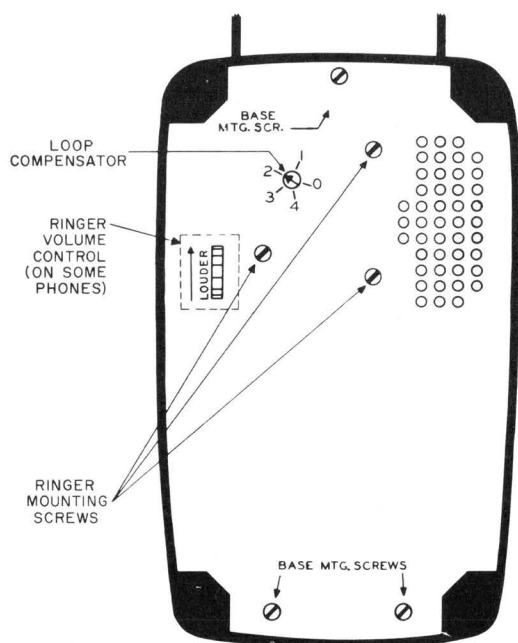
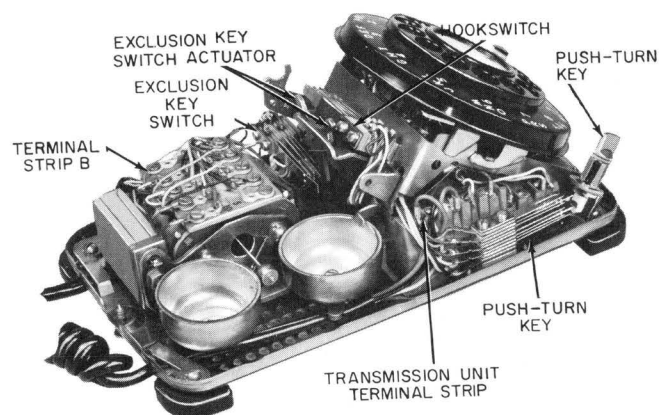
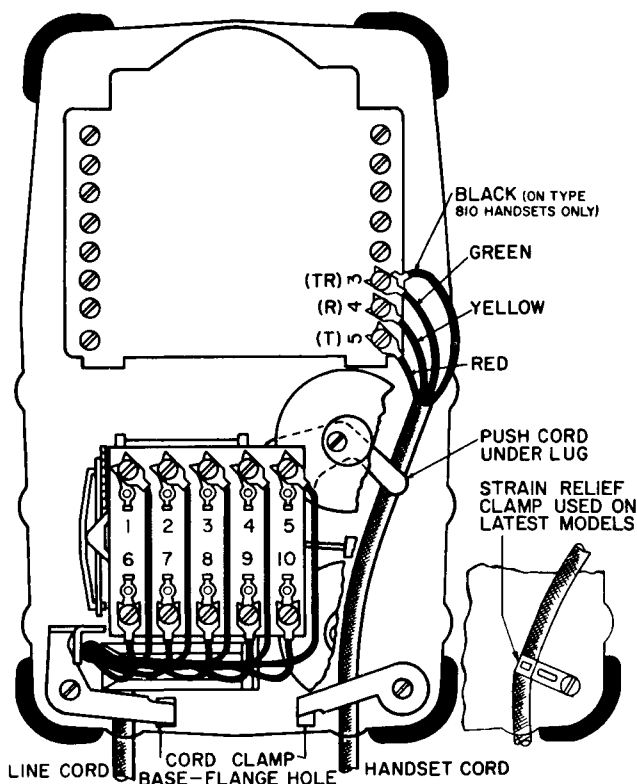

Figure 5. Typical baseplate.
Figure 6. Interior view with hookswitch actuator removed.
Figure 10. Line cord and handset cord connections inside telephone.
of the telephone marked BASE MTG SCREWS (figure 5) and loosen them. Now lift and remove the housing (figure 6). If the telephone is connected to the line, push the hookswitch actuating lever down to its locked position (see paragraph 3.2).
3.4 To remove the ringer, first remove the telephone housing. At terminal strip B (figure 6), disconnect the red ringer wire and black capacitor wire. At the transmission unit disconnect the green ringer wire and the white capacitor wire. At the bottom of the baseplate, remove the 3 ringer-mounting screws (figure 5). Remove the ringer and capacitor. Using the old ringer-mounting screws, fasten the new ringer and capacitor to the baseplate.
To replace the line cord, first remove the telephone housing. Notice whether the line cord connections at terminal strip B are standard for this type of telephone, or whether one of the variations of paragraphs 1.1, 1.2, or 1.3 has been previously installed. Disconnect the 6- or 10-conductor line cord leads from terminal strip B (figure 6). Loosen the cord clamp screw in the corner of the baseplate (figure 10) and unlock the clamp lug from its hole in the baseplate. Withdraw the old cord.
Pass the end of the new cord through the baseplate hole (figure 10), until the covered portion extends just over two inches into the base. Insert the cord clamp lug into its baseplate hole and adjust the cord in the clamping bracket until the covered cord end fits securely between the ringer capacitor and the upright portion of the cord clamp bracket. Tighten the cord clamp screw.
3.8 To replace the handset cord follow the instructions given in paragraph 3.1 for removing the housing. If the telephone is connected to the line, push the hookswitch actuating lever down. Disconnect the green and black wires from transmission unit terminal 3TR, the yellow wire from terminal 4R, and the red wire from terminal 5T. Loosen the strain relief clamp screw (figure 10) and pull out the old cord. The new cord can now be connected. NOTE: Previous Type 85 telephones used a cord clamp (also illustrated in figure 10) for retaining the handset cord.
The "loop compensator" is a rheostat-and-switch accessible from the bottom of the telephone (figure 5). By turning the slotted arrow counterclockwise with a small screwdriver from 0 to 4, the rheostat inserts 0 to 400 ohms in series with the loop.
5.2 To replace the handset cord follow the instructions for removing the telephone housing as stated in paragraph 3.1. Disconnect the handset cord wires from the transmission unit terminals and the handset cord clamp screw (figure 10). Pull out the old cord. The new cord can now be connected.